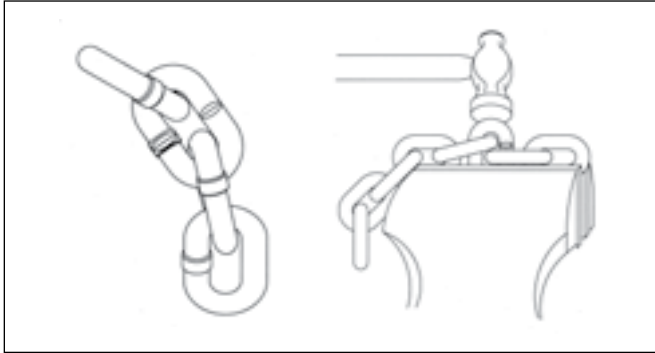

Figure 23. Cutting Chain by Nicking
1. Use a grinder and nick the link on both sides (Figure 23), then secure the link in a vise and break off with a hammer.